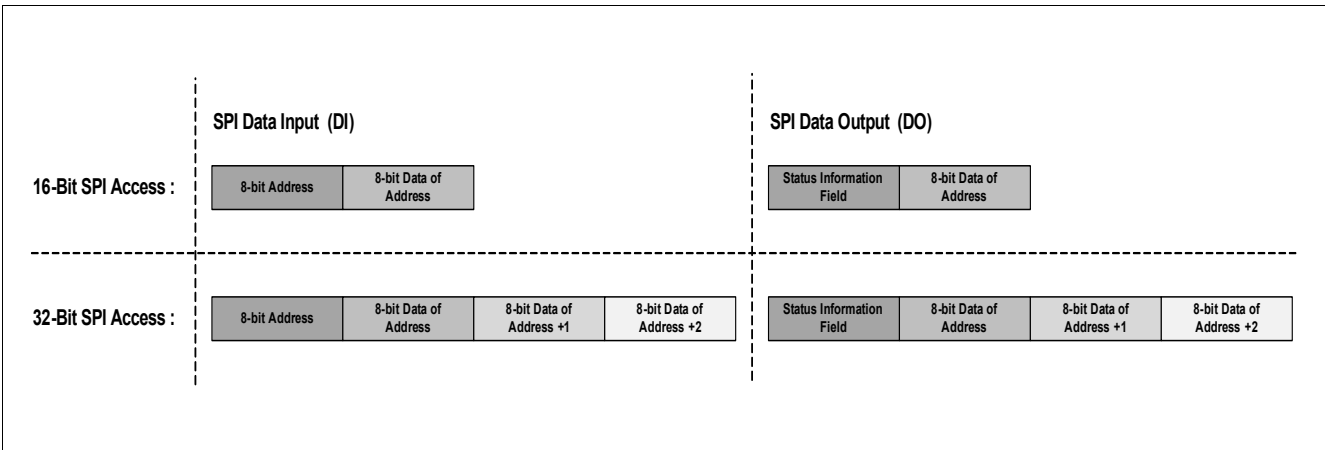

Figure 46 Data access for 16- and 32-bit SPI commands
The TLE9471-3ES is supporting multi-slave operation in full-duplex mode with 16-bit and 32-bit data access (see also Figure 46).
The operation of the 16-bit and 32-bit SPI data access is shown in Figure 46.
- following the data byteThe numbering of following bit definitions refers to the data byte and correspond to the bits D0...D7 and to the SPI bits 8...15. In case of 32-bit SPI commands, the data bytes from the next valid address are accessed (see also Figure 46).